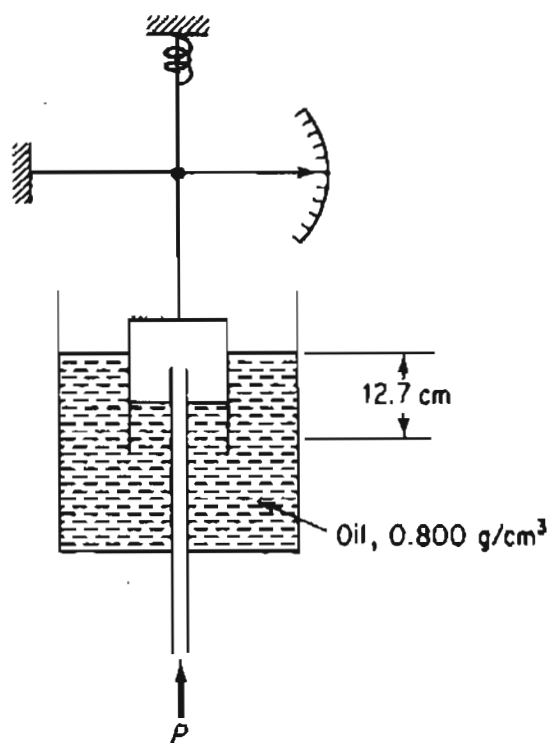

Figure P5.12
- *5.12 A pressure instrument has failed on a process line that requires constant monitoring. A bell-type gauge as shown in Figure P5.12 is available that has oil (density of